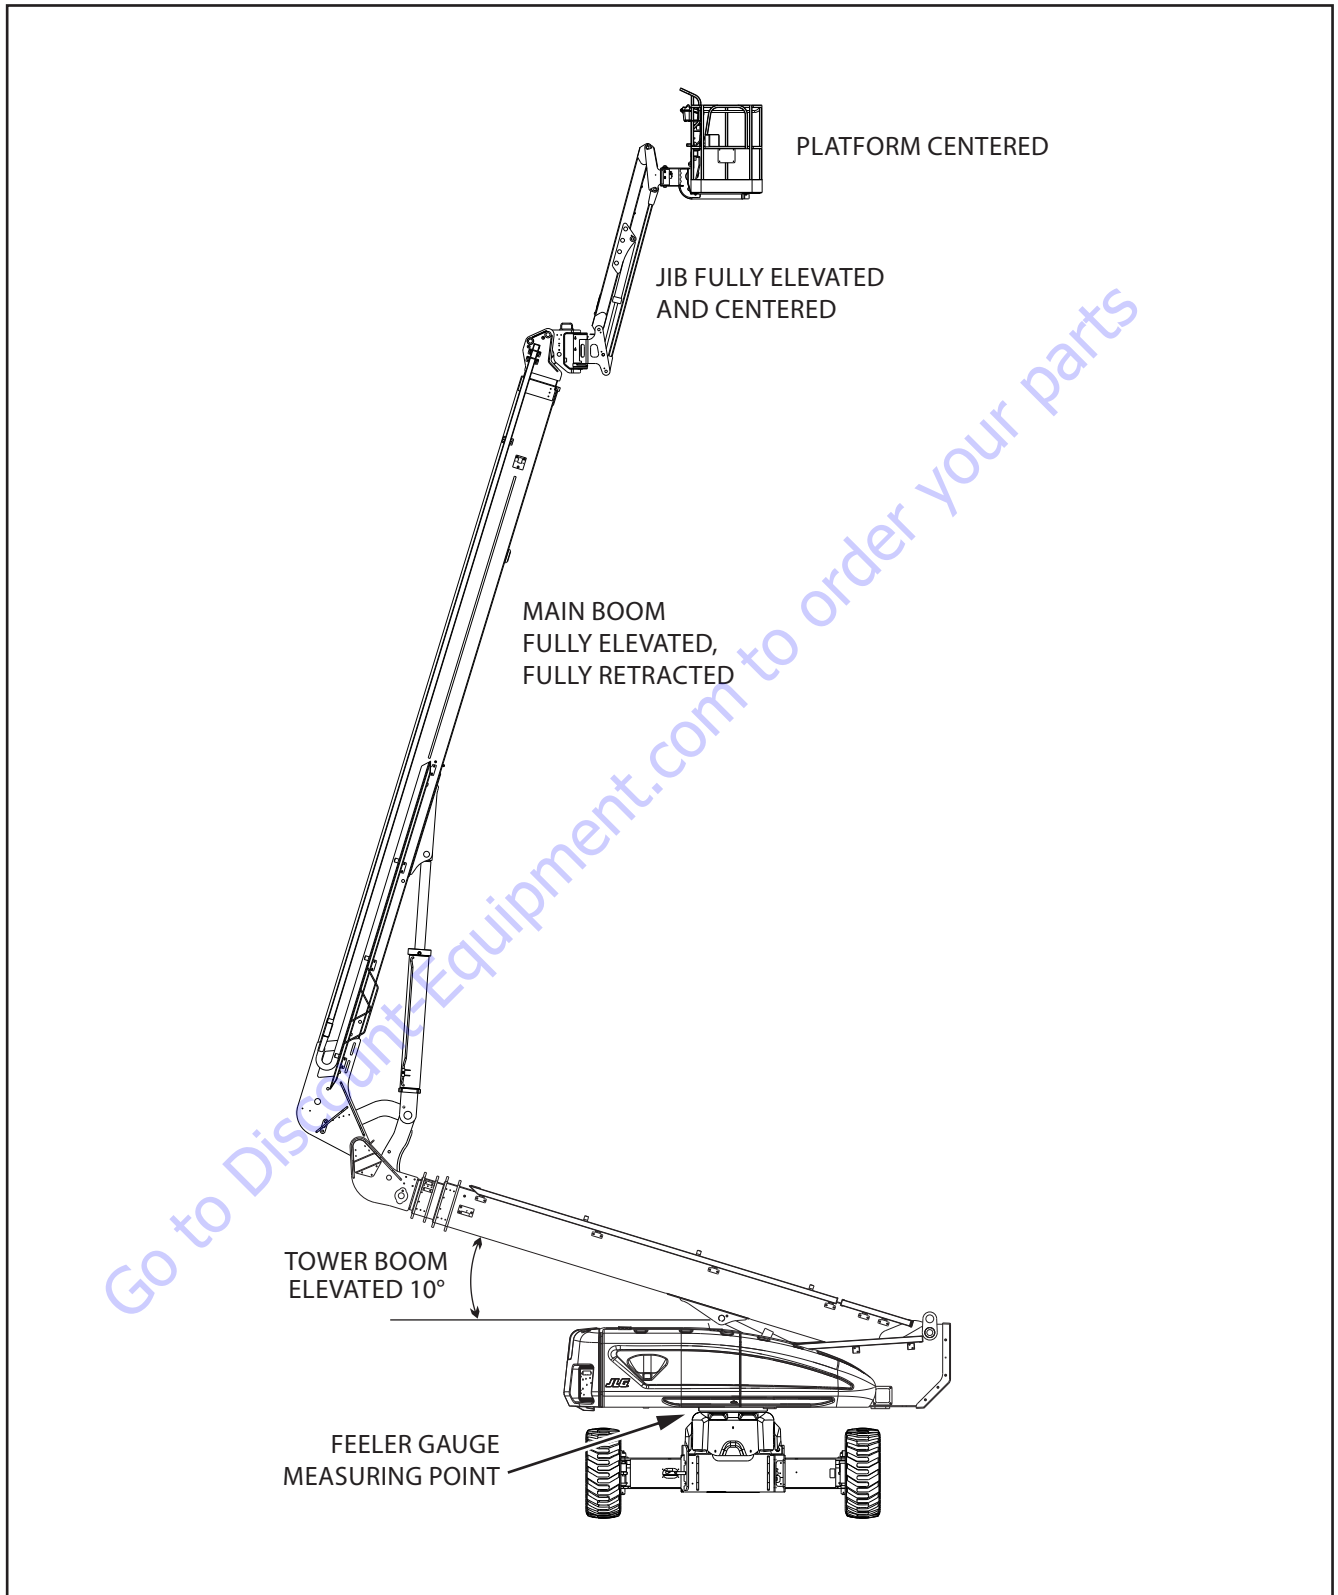

Figure 3-49. Turntable Bearing Service Boom Placement - 2
- a. Raise main boom to be fully elevated and retracted. Raise Tower boom 10° or enough to gain access to bearing bolts. Raise jib to be fully elevated and centered. Center platform and keep it unloaded. (See Figure 3-49.)
- b. At position indicated on Figure 3-49., try to insert a 0.0015 in (0.038 mm) feeler gauge between turntable side bearing bolt and hardened washer.